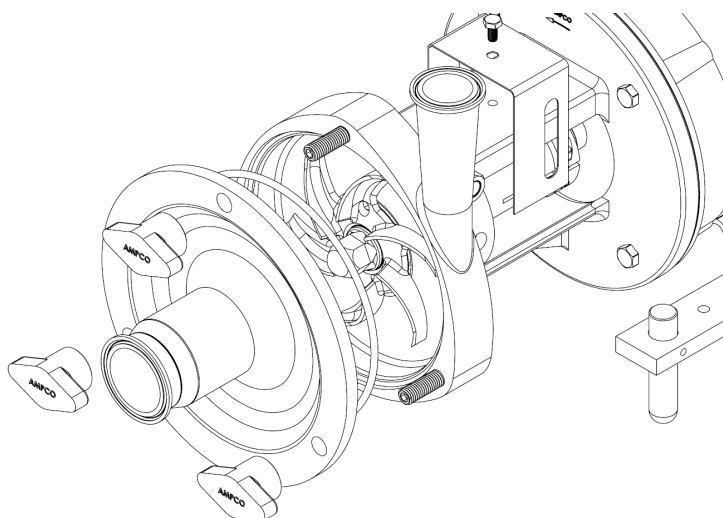

Figure 1
3. Loosen and remove cover wing nuts, cover, cover gasket and shaft guard. See figure 1.